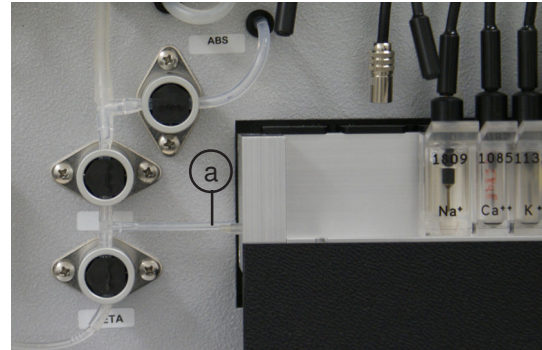

figure 1
- Remove sensors on left side (figure 1).